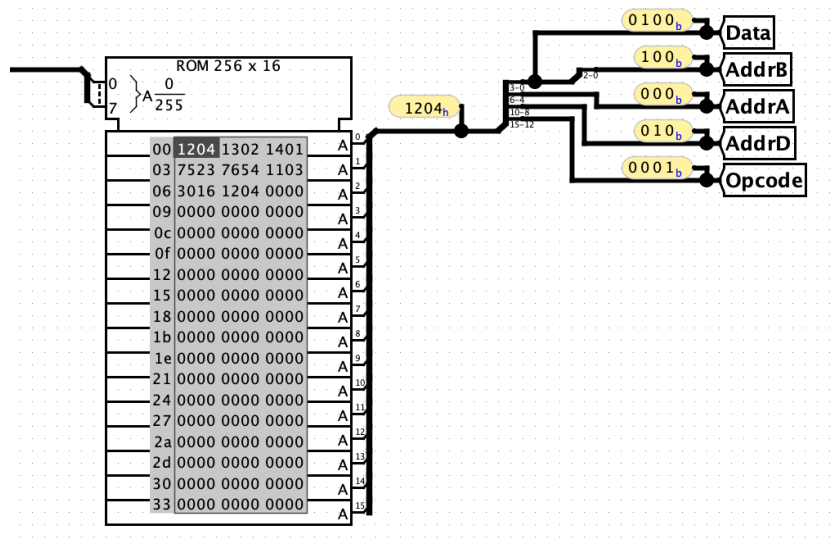

Figure 4 – Program PROM and Splitter Connections
6. Build the instruction decoder using a 16x8 ROM (16 locations that each hold 8 bits). Connect the address input to the appropriate signal from the program PROM. Split the 8 outputs into the required control signals with splitters (similar to the method used for the program PROM outputs in Figure 4).